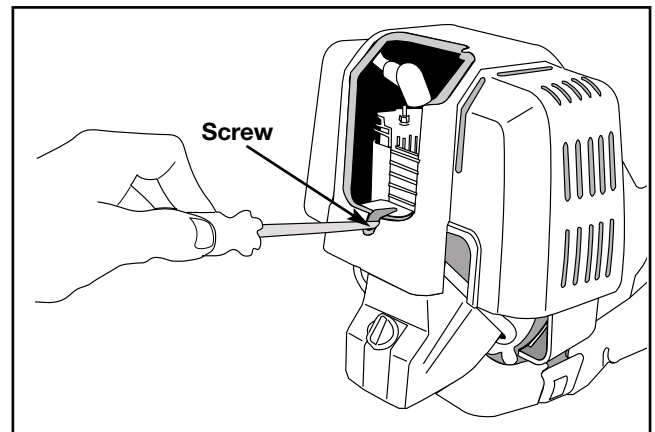

Fig. 48
1. Remove the four (4) screws from the engine cover (Figs. 48 and 49).
- Reinstall the engine cover and screws (see Figs. 48 and 49 on page 22).